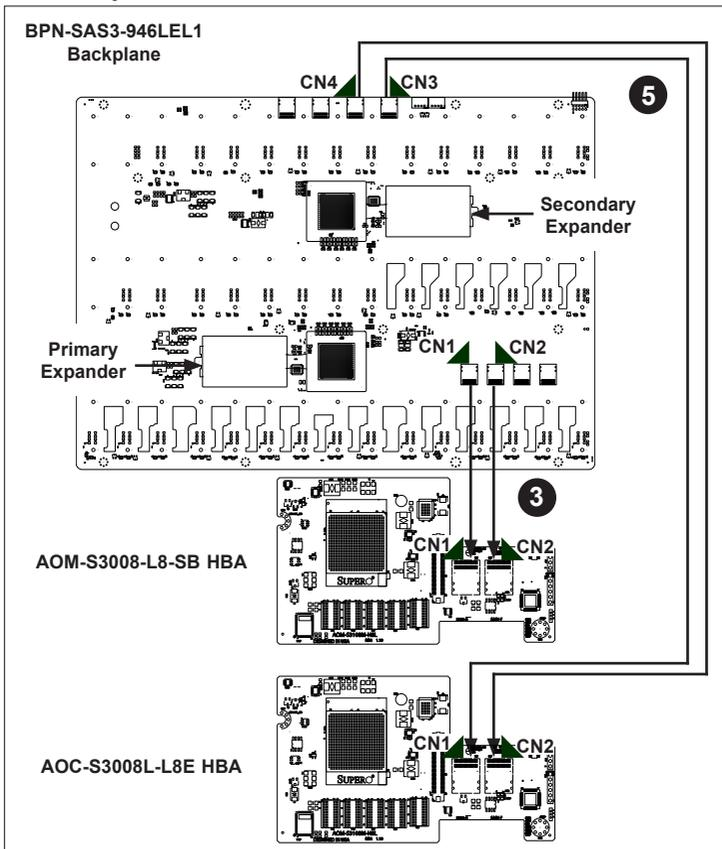

Figure 3-3. Backplane Cascading Configuration
3. Plug the cables into connectors CN1 and CN2, then route them to connectors CN1 and CN2 on the underside of the AOM-S3008-L8-SB HBA located within the same server as the backplane, as illustrated in Figure 3-3.
5. Connect the cables to CN3 and CN4, then route them to CN1 and CN2 on the underside of the AOC-S3008L-L8E HBA in the same server, as illustrated in Figure 3-3.